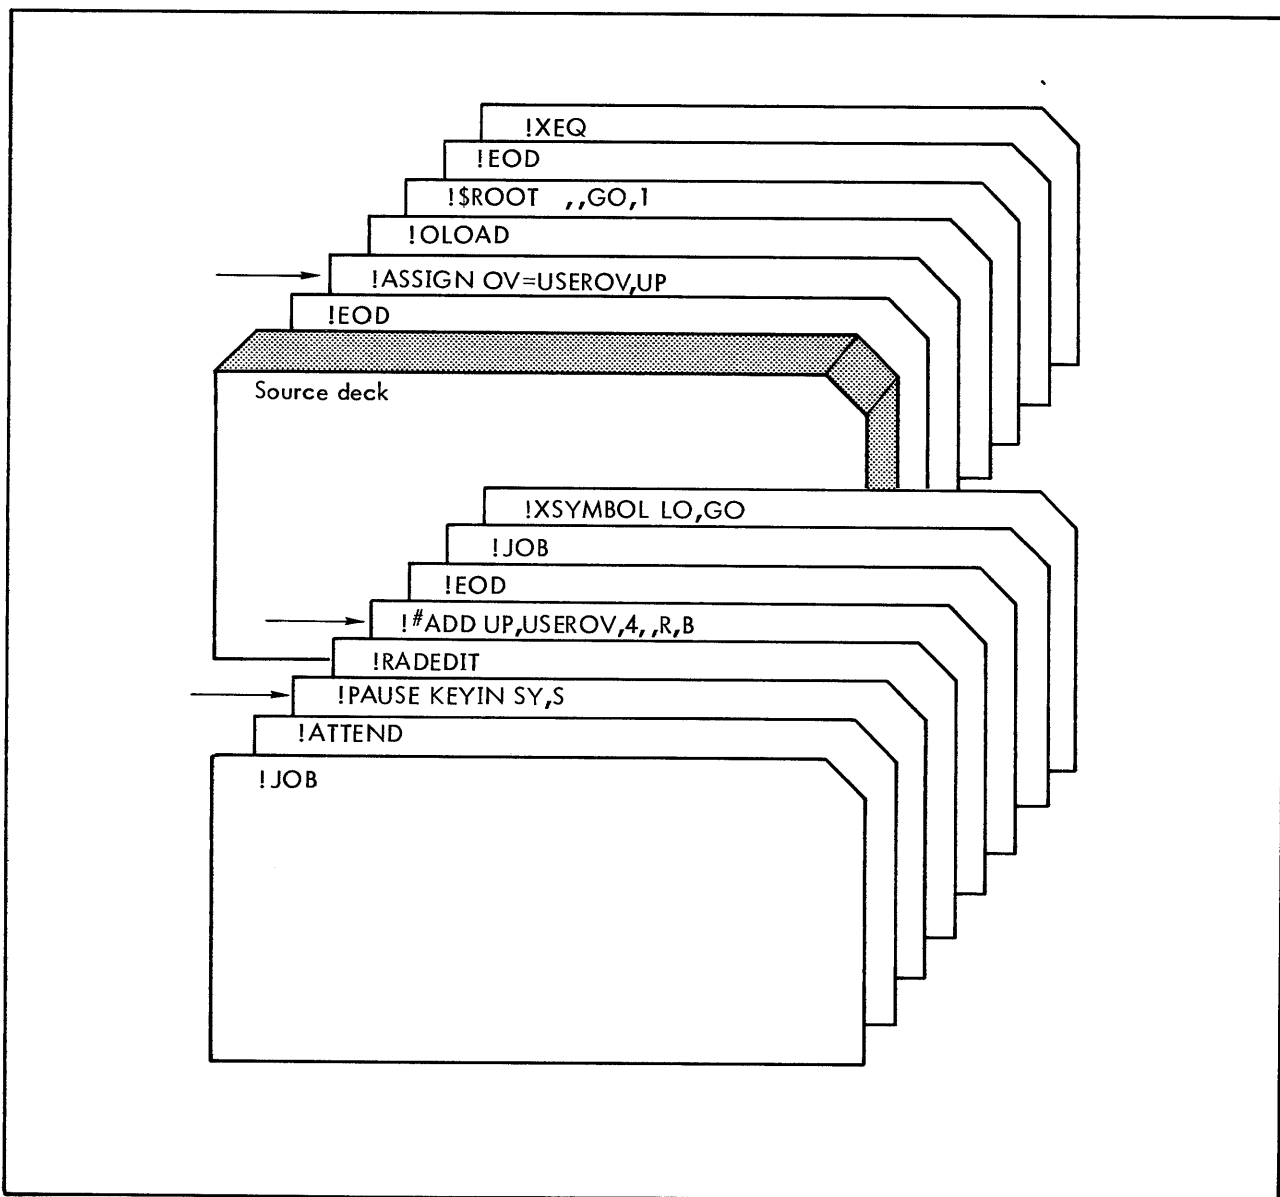

Figure 14. Assemble, Load, and Go from Permanent OV File
In the example in Figure 14, the !RAEDIT card calls in the RAD Editor and the !#ADD card informs the Editor that a new entry is to be added to the UP area; the name of the file is to be USEROV, and there are four records within the file (filesize). The double comma specifies that the default record size is to be used and the format is to be random access (R). The file has write protection from everything except background programs (B). The file has write protection from everything except background programs (B).